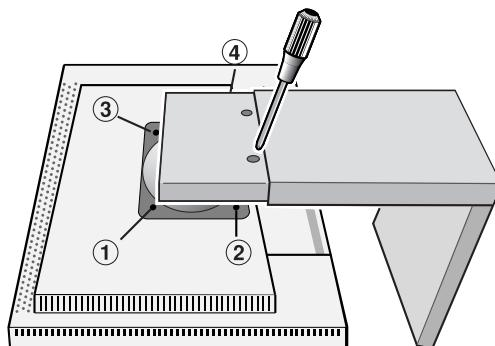

Figure S.2
4. Remove the 4 screws connecting the monitor to the stand and lift off the stand assembly (Figure S.2).